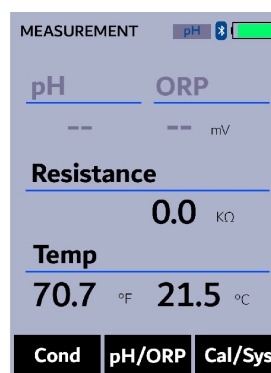

Figure 13. Resistivity measurement
4. Resistivity values will be displayed in the same area the conductivity reading was previously displayed (Figure 13).